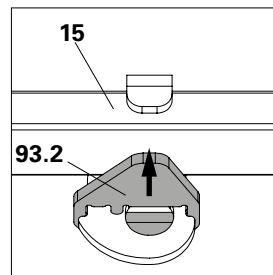
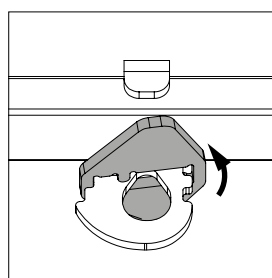

Fig. A11.06b
Fig. A11.06d
2. Lift the pressure plate (93.2) and push it towards the ledger (15). (Fig. A11.06b – Fig. A11.06d)